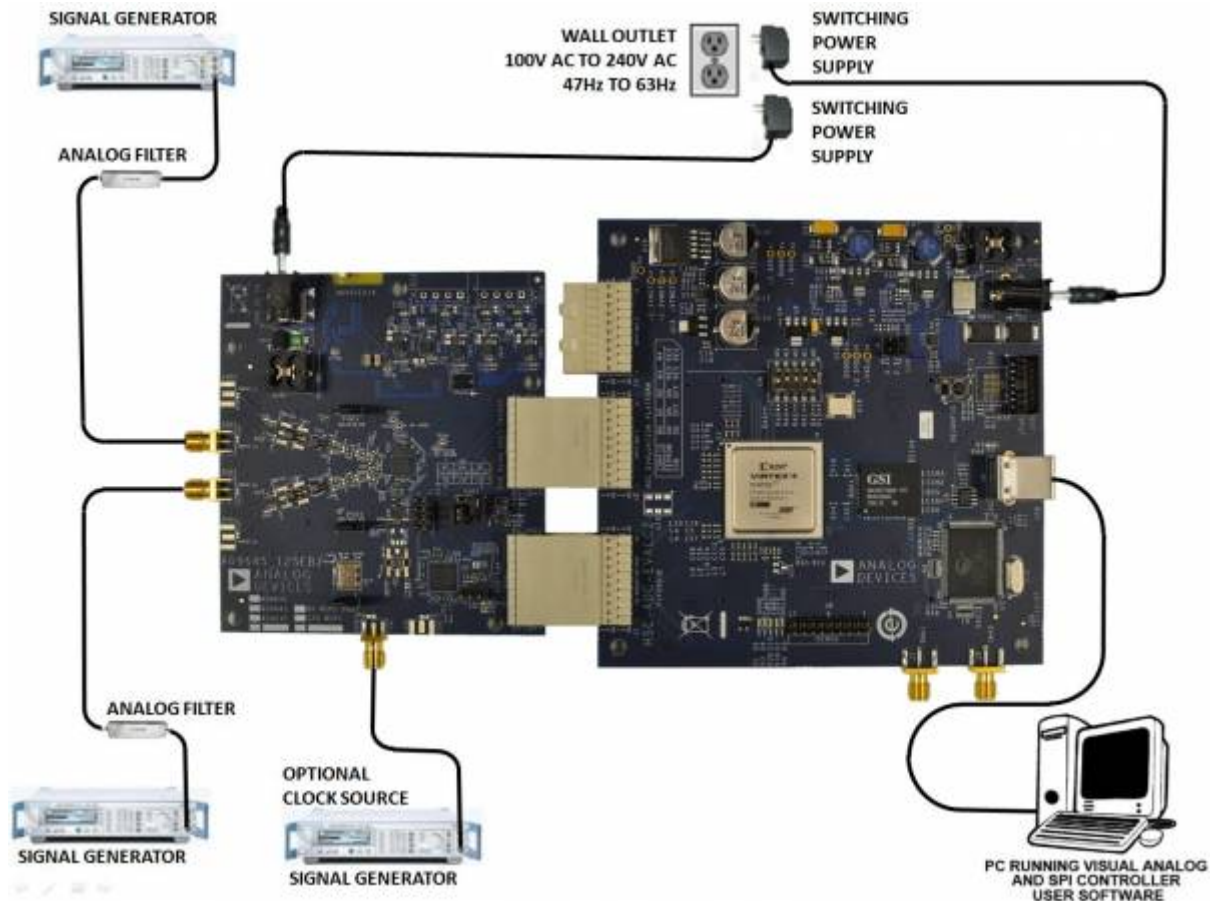

Figure 1. Evaluation Board Connection—AD9645-125EBZ or AD9635-125EBZ (on Left) and HSC-ADC-EVALCZ (on Right)
1. Connect the evaluation board to the data capture board, as shown in Figure 1.
The evaluation board provides the support circuitry required to operate the AD9645 and AD9635 in their various modes and configurations. Figure 1 shows the typical bench characterization setup used to evaluate AC performance. It is critical that the signal sources used for the analog input and clock have very low phase noise (<1 ps rms jitter) to realize the optimum performance of the signal chain. Proper filtering of the analog input signal to remove harmonics and lower the integrated or broadband noise at the input is necessary to achieve the specified noise performance.